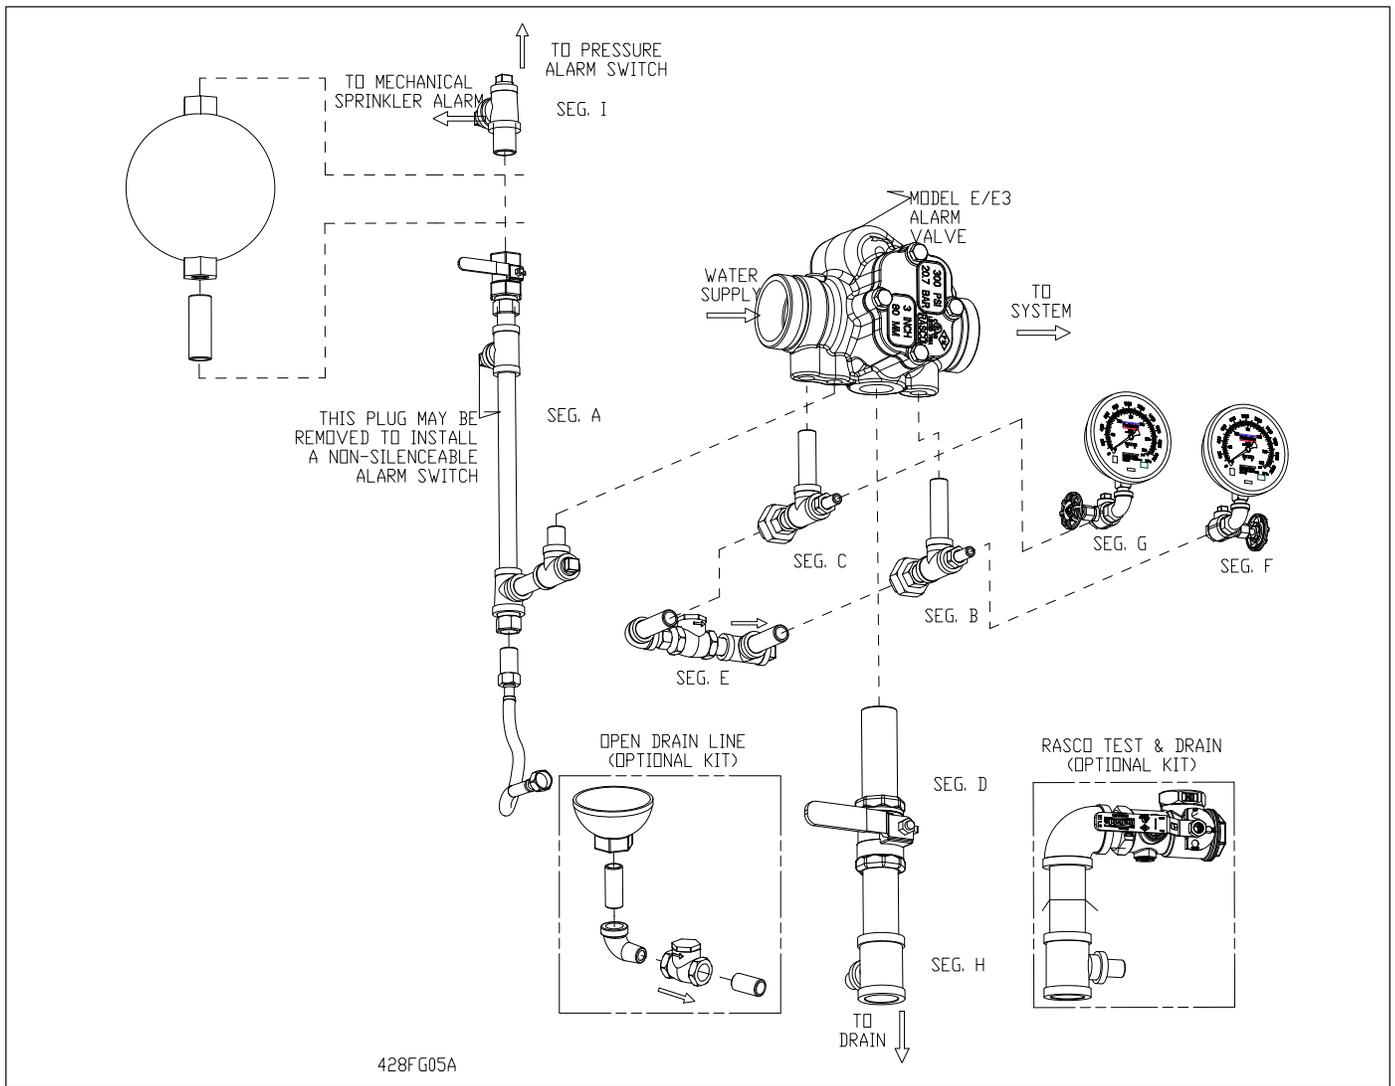

Fig. 5
- **Horizontal Installation (Figs. 5 & 6 & 8)**
Follow a sequence similar to that given above for vertical installation, and refer to Figs. 5 & 6 for illustration.